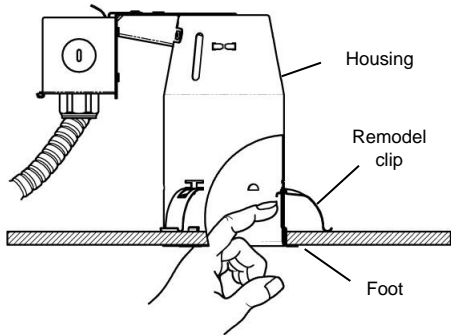

Fig. 6
3. Continue pushing the clips through, until they snap into position. The "foot" of each clip will hook the edge of the hole, preventing the housing from sliding further into the hole. (Fig. 6)